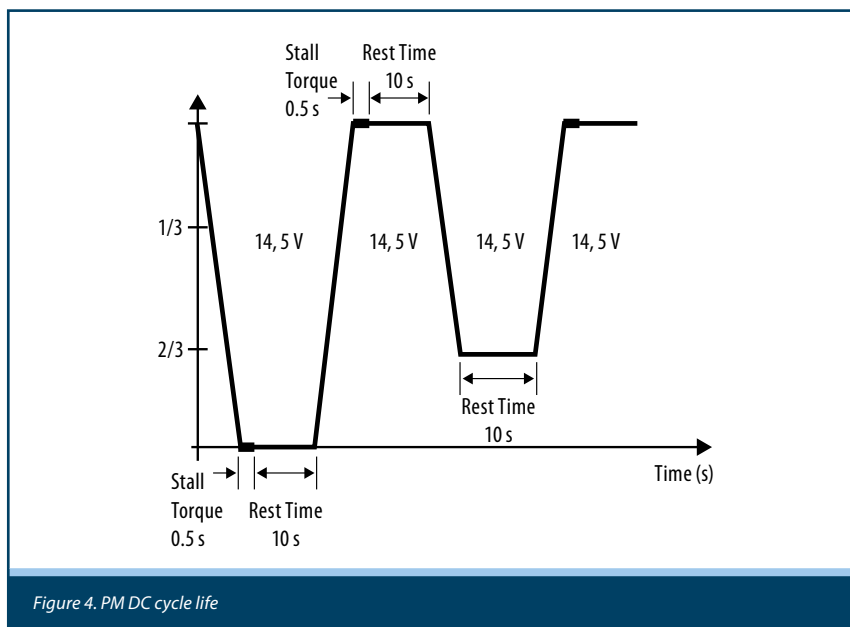

Figure 4. PM DC cycle life
2. **Cycle Life:** A typical cycle life will be a short motor rotation followed by a short stall and a period of rest. A motor may undergo hundreds or even thousands of cycles with the pass criteria being that the protection should never trip. Figure 4 is an example of how the protector can be checked for nuisance tripping.